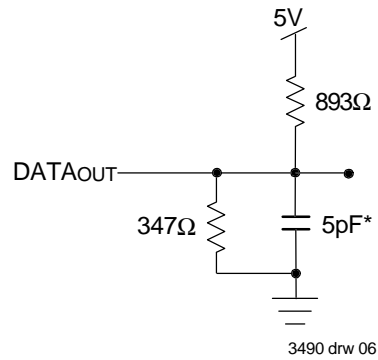

Figure 2. Output Test Load
1. Transition is measured 0mV from Low or High impedance voltage with the Output Test Load (Figure 2).
1. Transition is measured ±200mV from Low or High-impedance voltage with the Output Test Load (Figure 2).
3. Transition is measured 0mV from Low or High-impedance voltage with the Output Test Load (Figure 2).